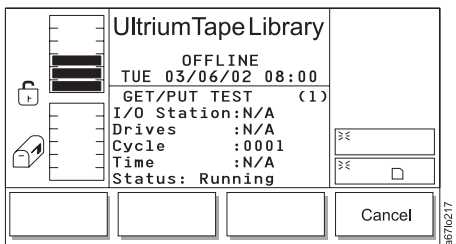

Figure 4-145. Get/Put Execution screen
7. Press the button below the **OK** softkey, or the one below the **Cancel** softkey. The Get/Put Execution screen displays with a Status field that indicates the diagnostic is Running (see Figure 4-145). When the test completes, the screen refreshes and the Status field displays Completed. To stop the diagnostic, press the **Cancel** softkey while the diagnostic is running.
- Press the button below the **OK** softkey to perform the diagnostic. The Move Test Execution screen displays (see Figure 4-145 on page 4-86) with a summary of the test settings and a Status field that indicates that the diagnostic is Running. When the test completes, the screen refreshes and the Status field displays Completed.